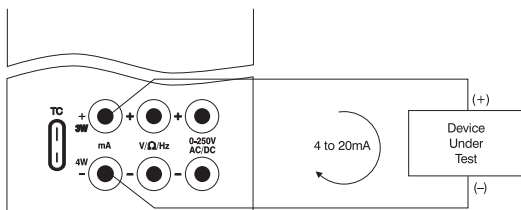

Figure 4.
2. Connect device under test as shown in Figure 4.